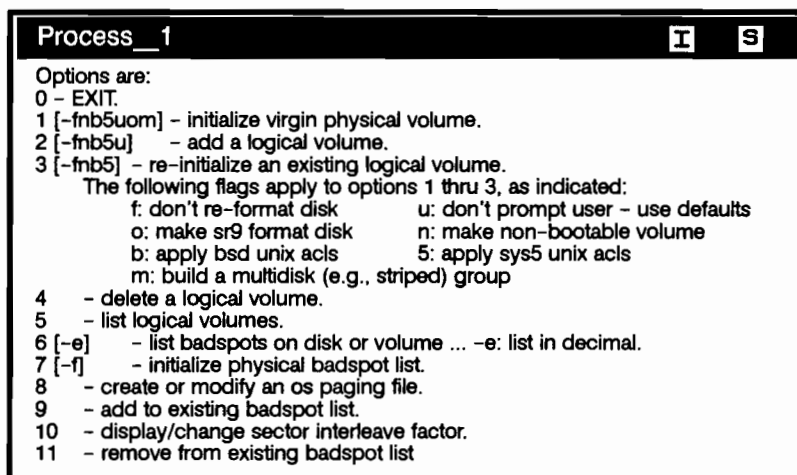

Figure 6-3. Options for *invol* Utility
2. The **invol** utility returns the option information shown in Figure 6-3. If this is a new disk, do not use the **-f** flag (number 7 in Figure 6-3) when using **invol** to initialize the physical badspot list on each drive. Not using the **-f** flag increases initialization time, as the disk is formatted.